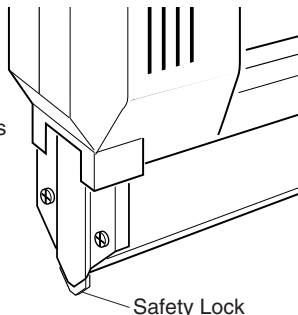

Figure 6
- Grip tool firmly and hold against work surface. Use enough pressure to depress safety lock. The safety lock is located on nail exit of tool (see Figure 6).